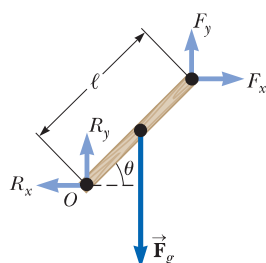

Figure P12.1
1. What are the necessary conditions for equilibrium of the object shown in Figure P12.1? Calculate torques about an axis through point O .